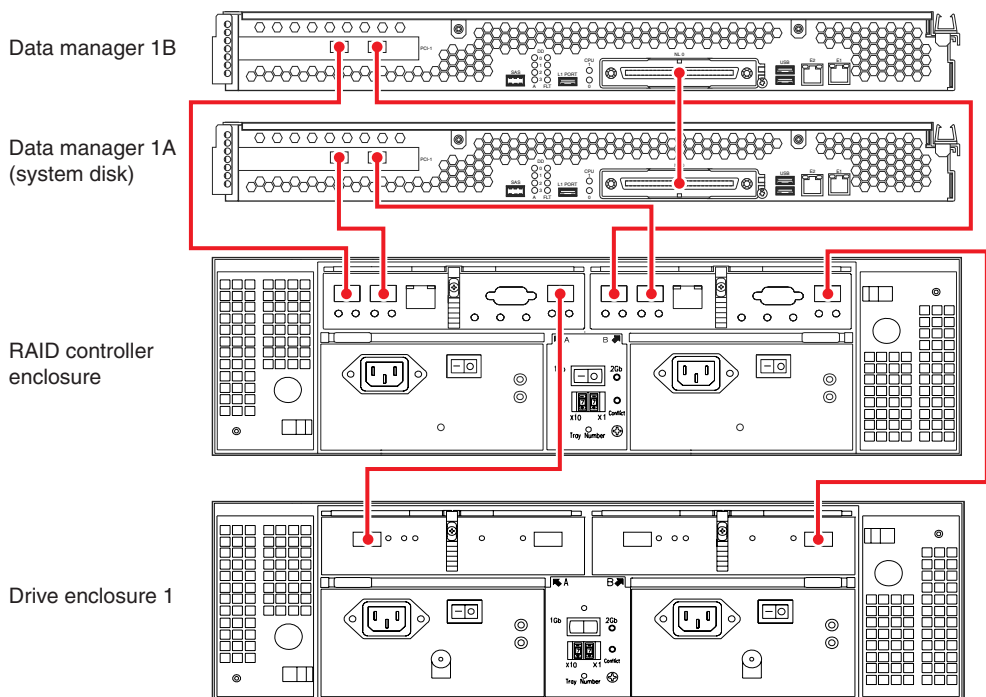

Figure 1-9 Two-Module Data Manager With Two Fibre Channel Cards a Two-Controller RAID Enclosure and One Disk Expansion Enclosure
Use the following steps and Figure 1-9 to properly cable a two-module, two-Fibre Channel controller data manager to a dual-controller RAID enclosure with one disk expansion enclosure.
1. Connect Data Manager 1A's Fibre Channel PCI card port A (blue label [1A]) to RAID controller A's host port 2 (blue label [1A]), see Figure 1-9.